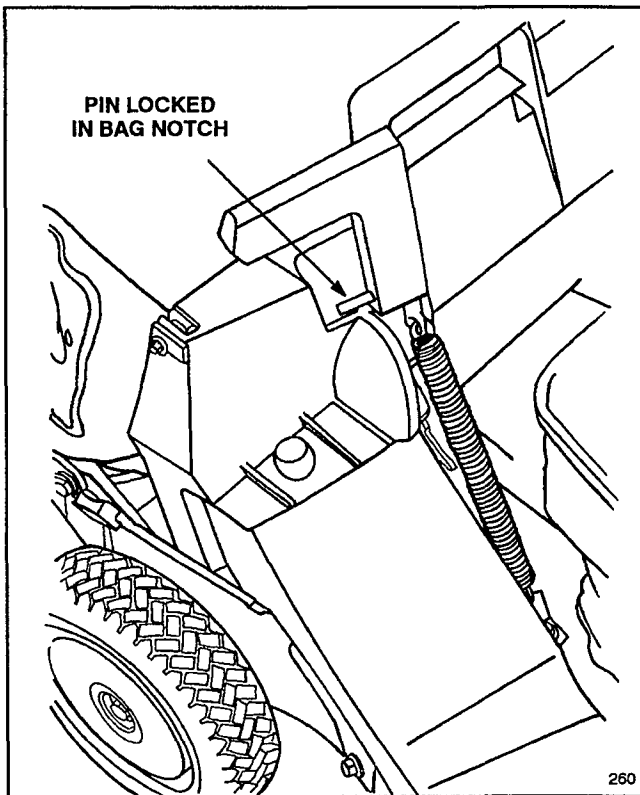

Figure 16
3. **INSTALLING BAG**—Slide hole in bag frame onto retaining post on discharge tunnel (Fig. 16). Set rear of bag frame onto lower handle.
4. Pull discharge door handle forward until pin clears catch and move handle rearward until pin locks in bag notch (Fig. 16). Discharge door in mower housing is now open.